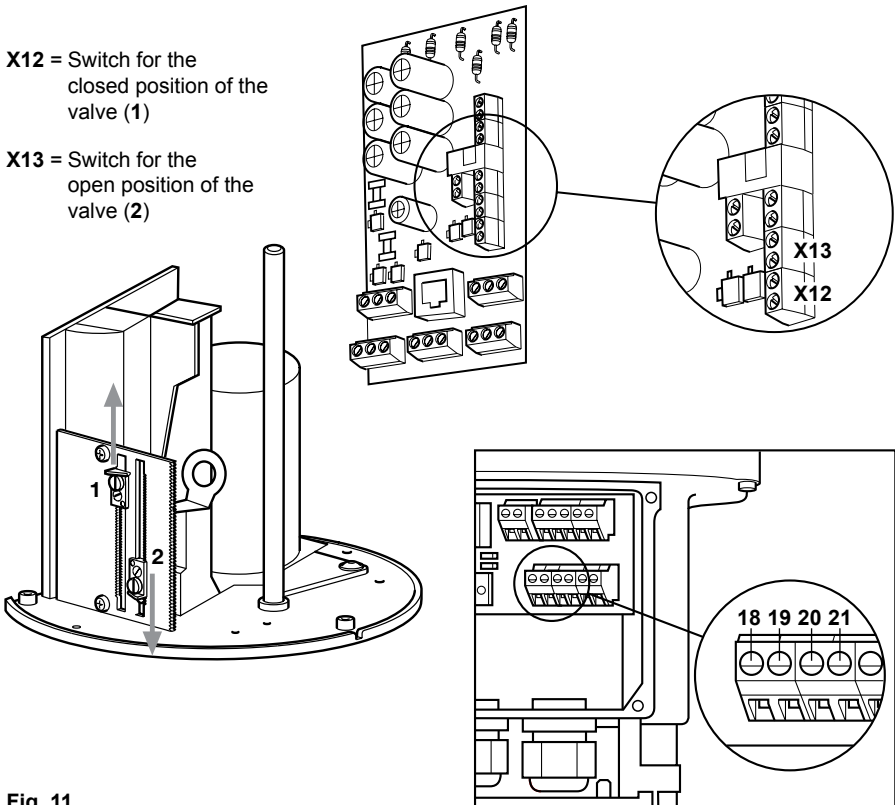

Fig. 11
All actuators can be provided with additional limit switches (Figure 11, page 14). Mounting locations are on the limit switch, angle bracket AEL62_, AEL63_, AEL64_ and AEL65_ : Remove the handwheel by loosening the socket headed grub screw (4 mm A/F Allen key).
Section 3.5.6 shows how the switches are wired to the terminals. Fit the extend switch and the retract switch position (1) and (2) respectively in Figure 11.